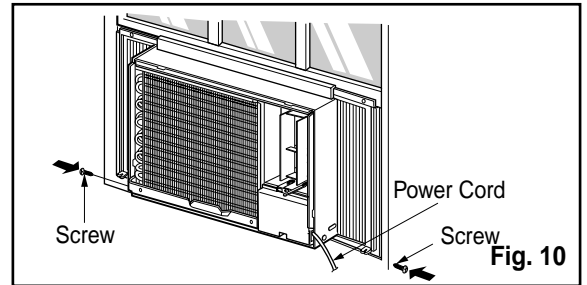

Fig. 10
7. Slide the unit into the cabinet.(See Fig. 10)